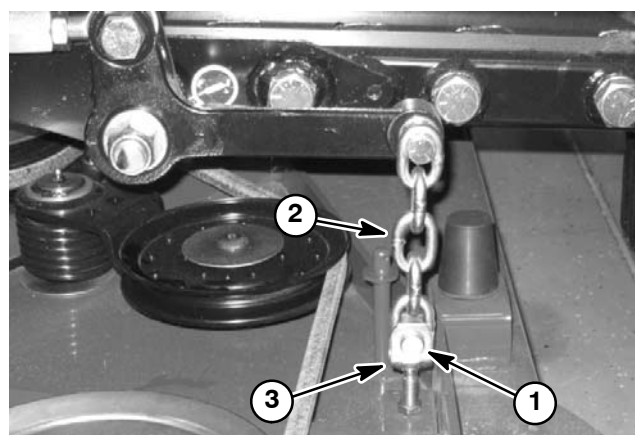

Figure 3
7. Remove four (4) ring pins and clevis pins that secure deck lift chains to adjustment clevises on cutting deck (Fig. 3).
2. Install four (4) clevis pins and ring pins to secure deck lift chains to adjustment clevises on cutting deck (Fig. 3).